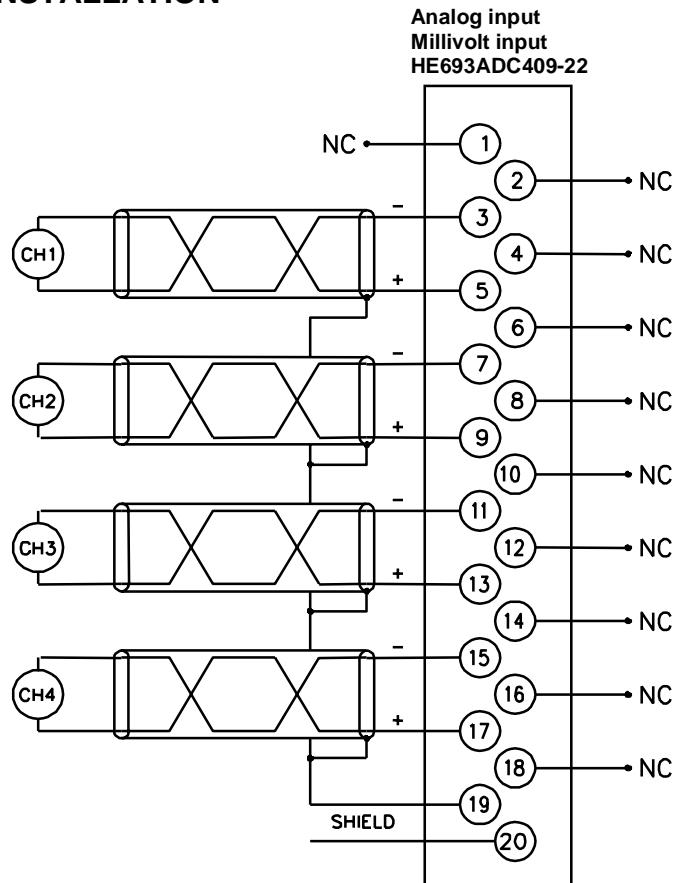

Figure 5 – Wiring
5. Short all unused channels to frame ground (See Figure 5 - Pins 19 and 20).